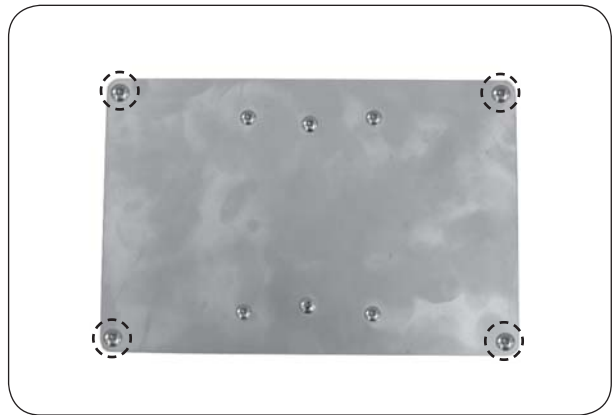

Fig. 35-1 Remove 4 large screws
2. Using a phillips screwdriver, remove the 4 large screws found on the cover of the power supply box (see Fig. 35-1).